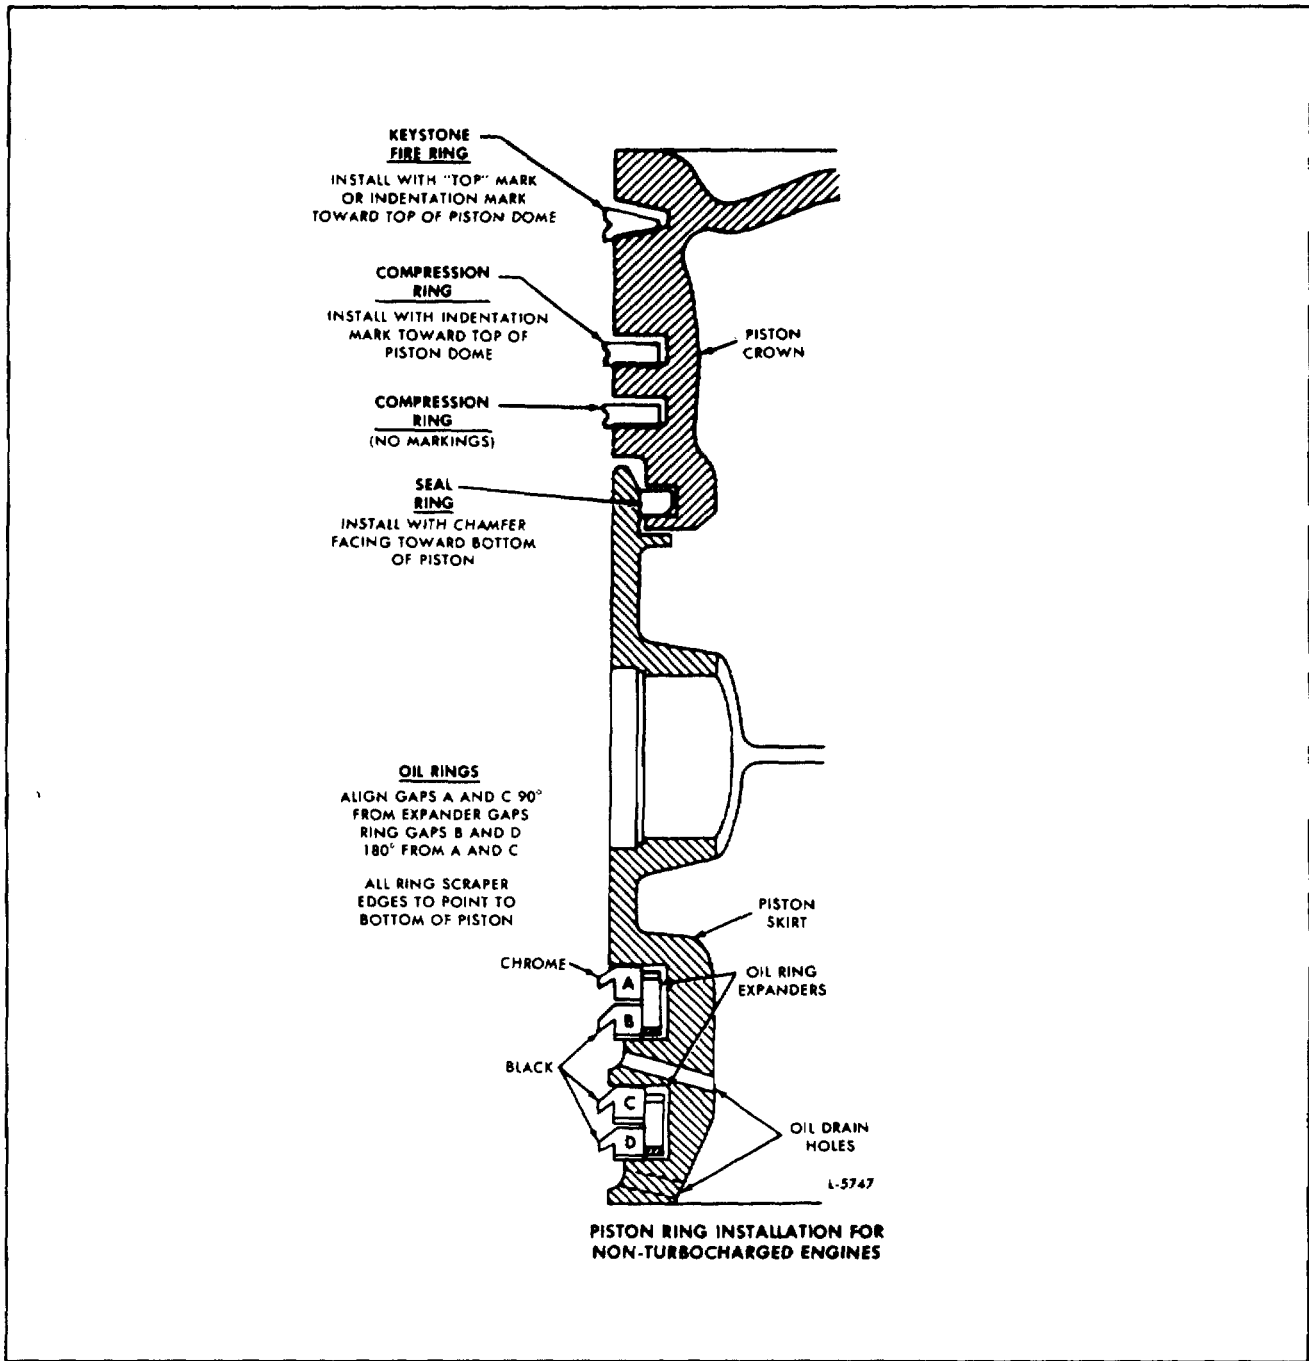

Fig. 16. Piston Ring Installation Instructions.
1. Starting with the bottom ring, install the compression rings with tool J 8128 as shown in Fig. 4. To avoid breaking or overstressing the rings, do not spread them any more than necessary to slip them over the piston. Refer to Fig. 16 for ring identification and location.
Refer to Fig. 16 for the type and location and install the oil control rings as follows:
2. Install the oil control rings by hand. Start with the upper half of the top oil ring and align the gaps as indicated in Fig. 16.